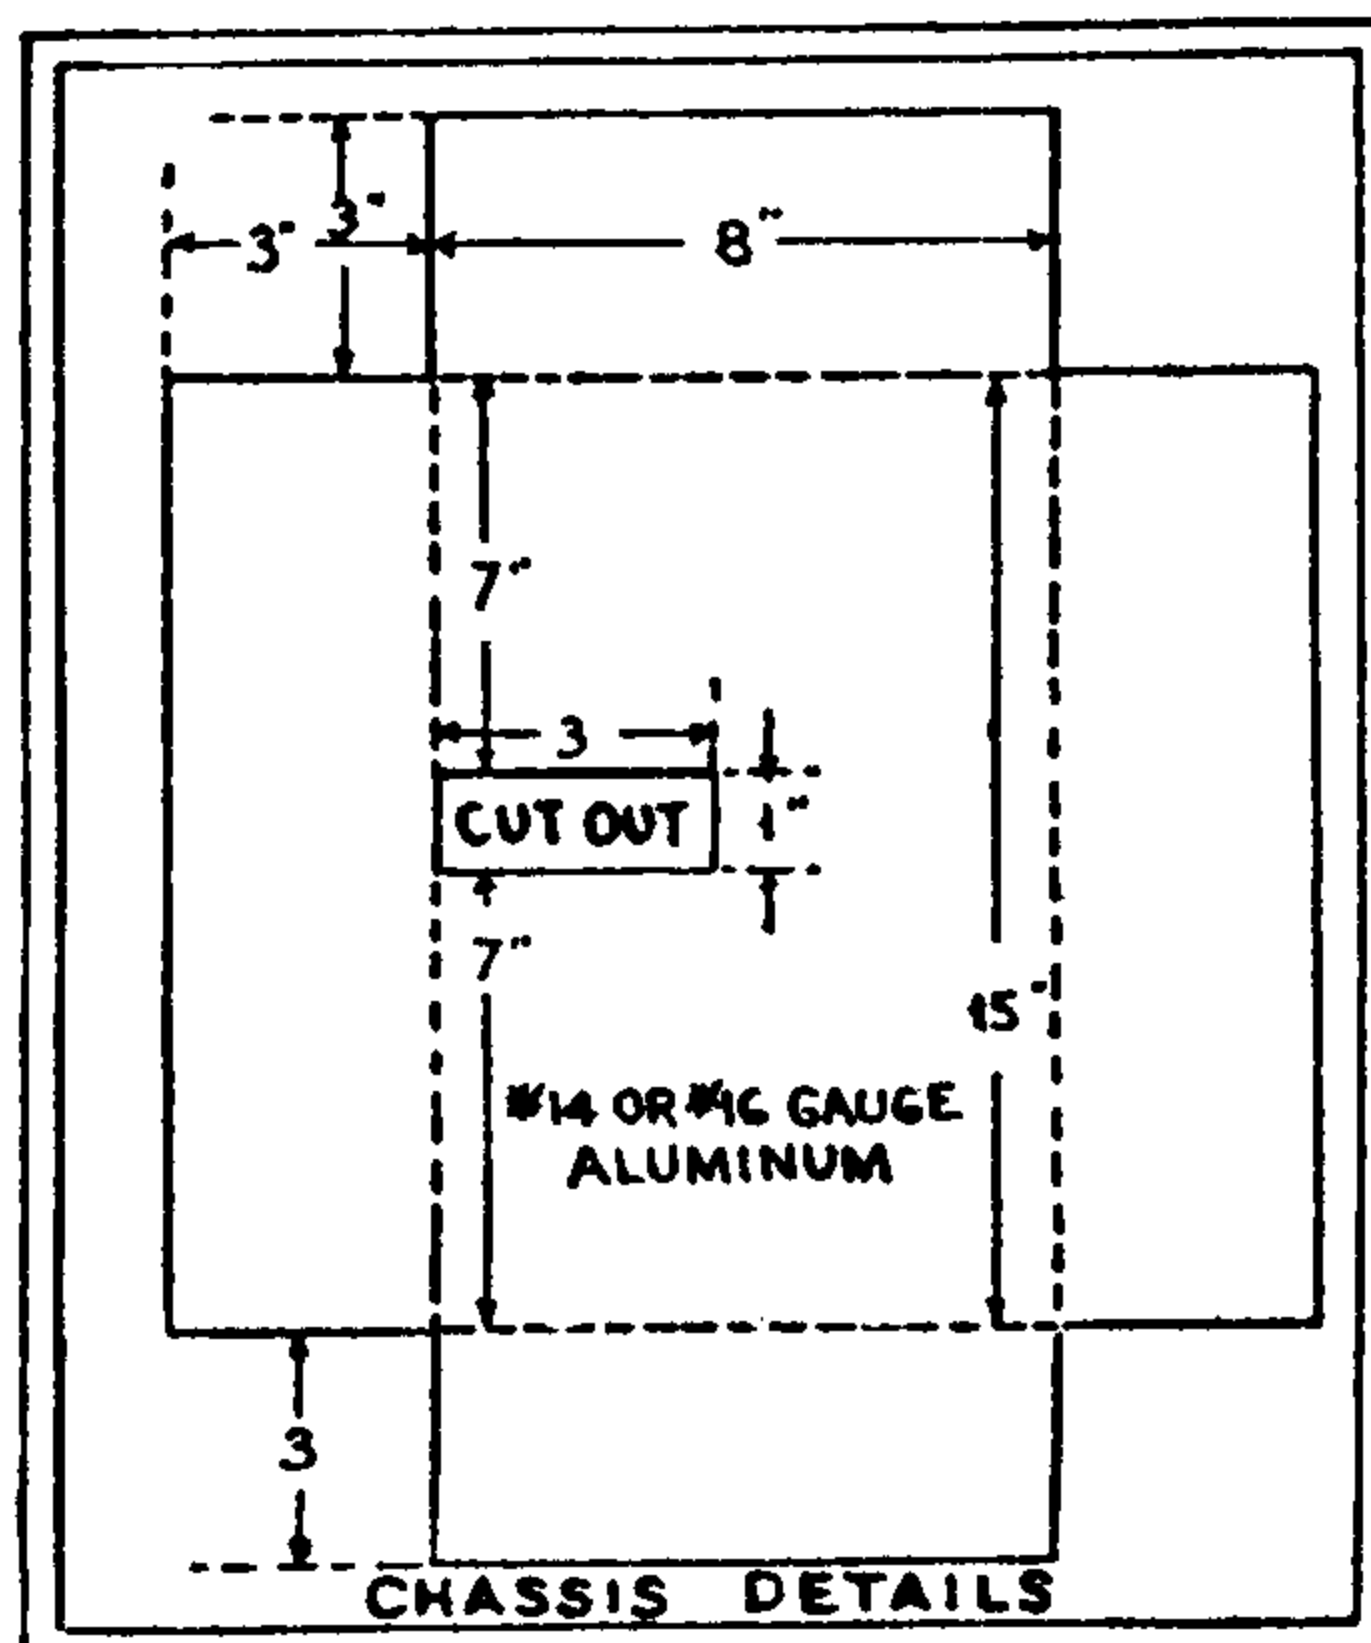
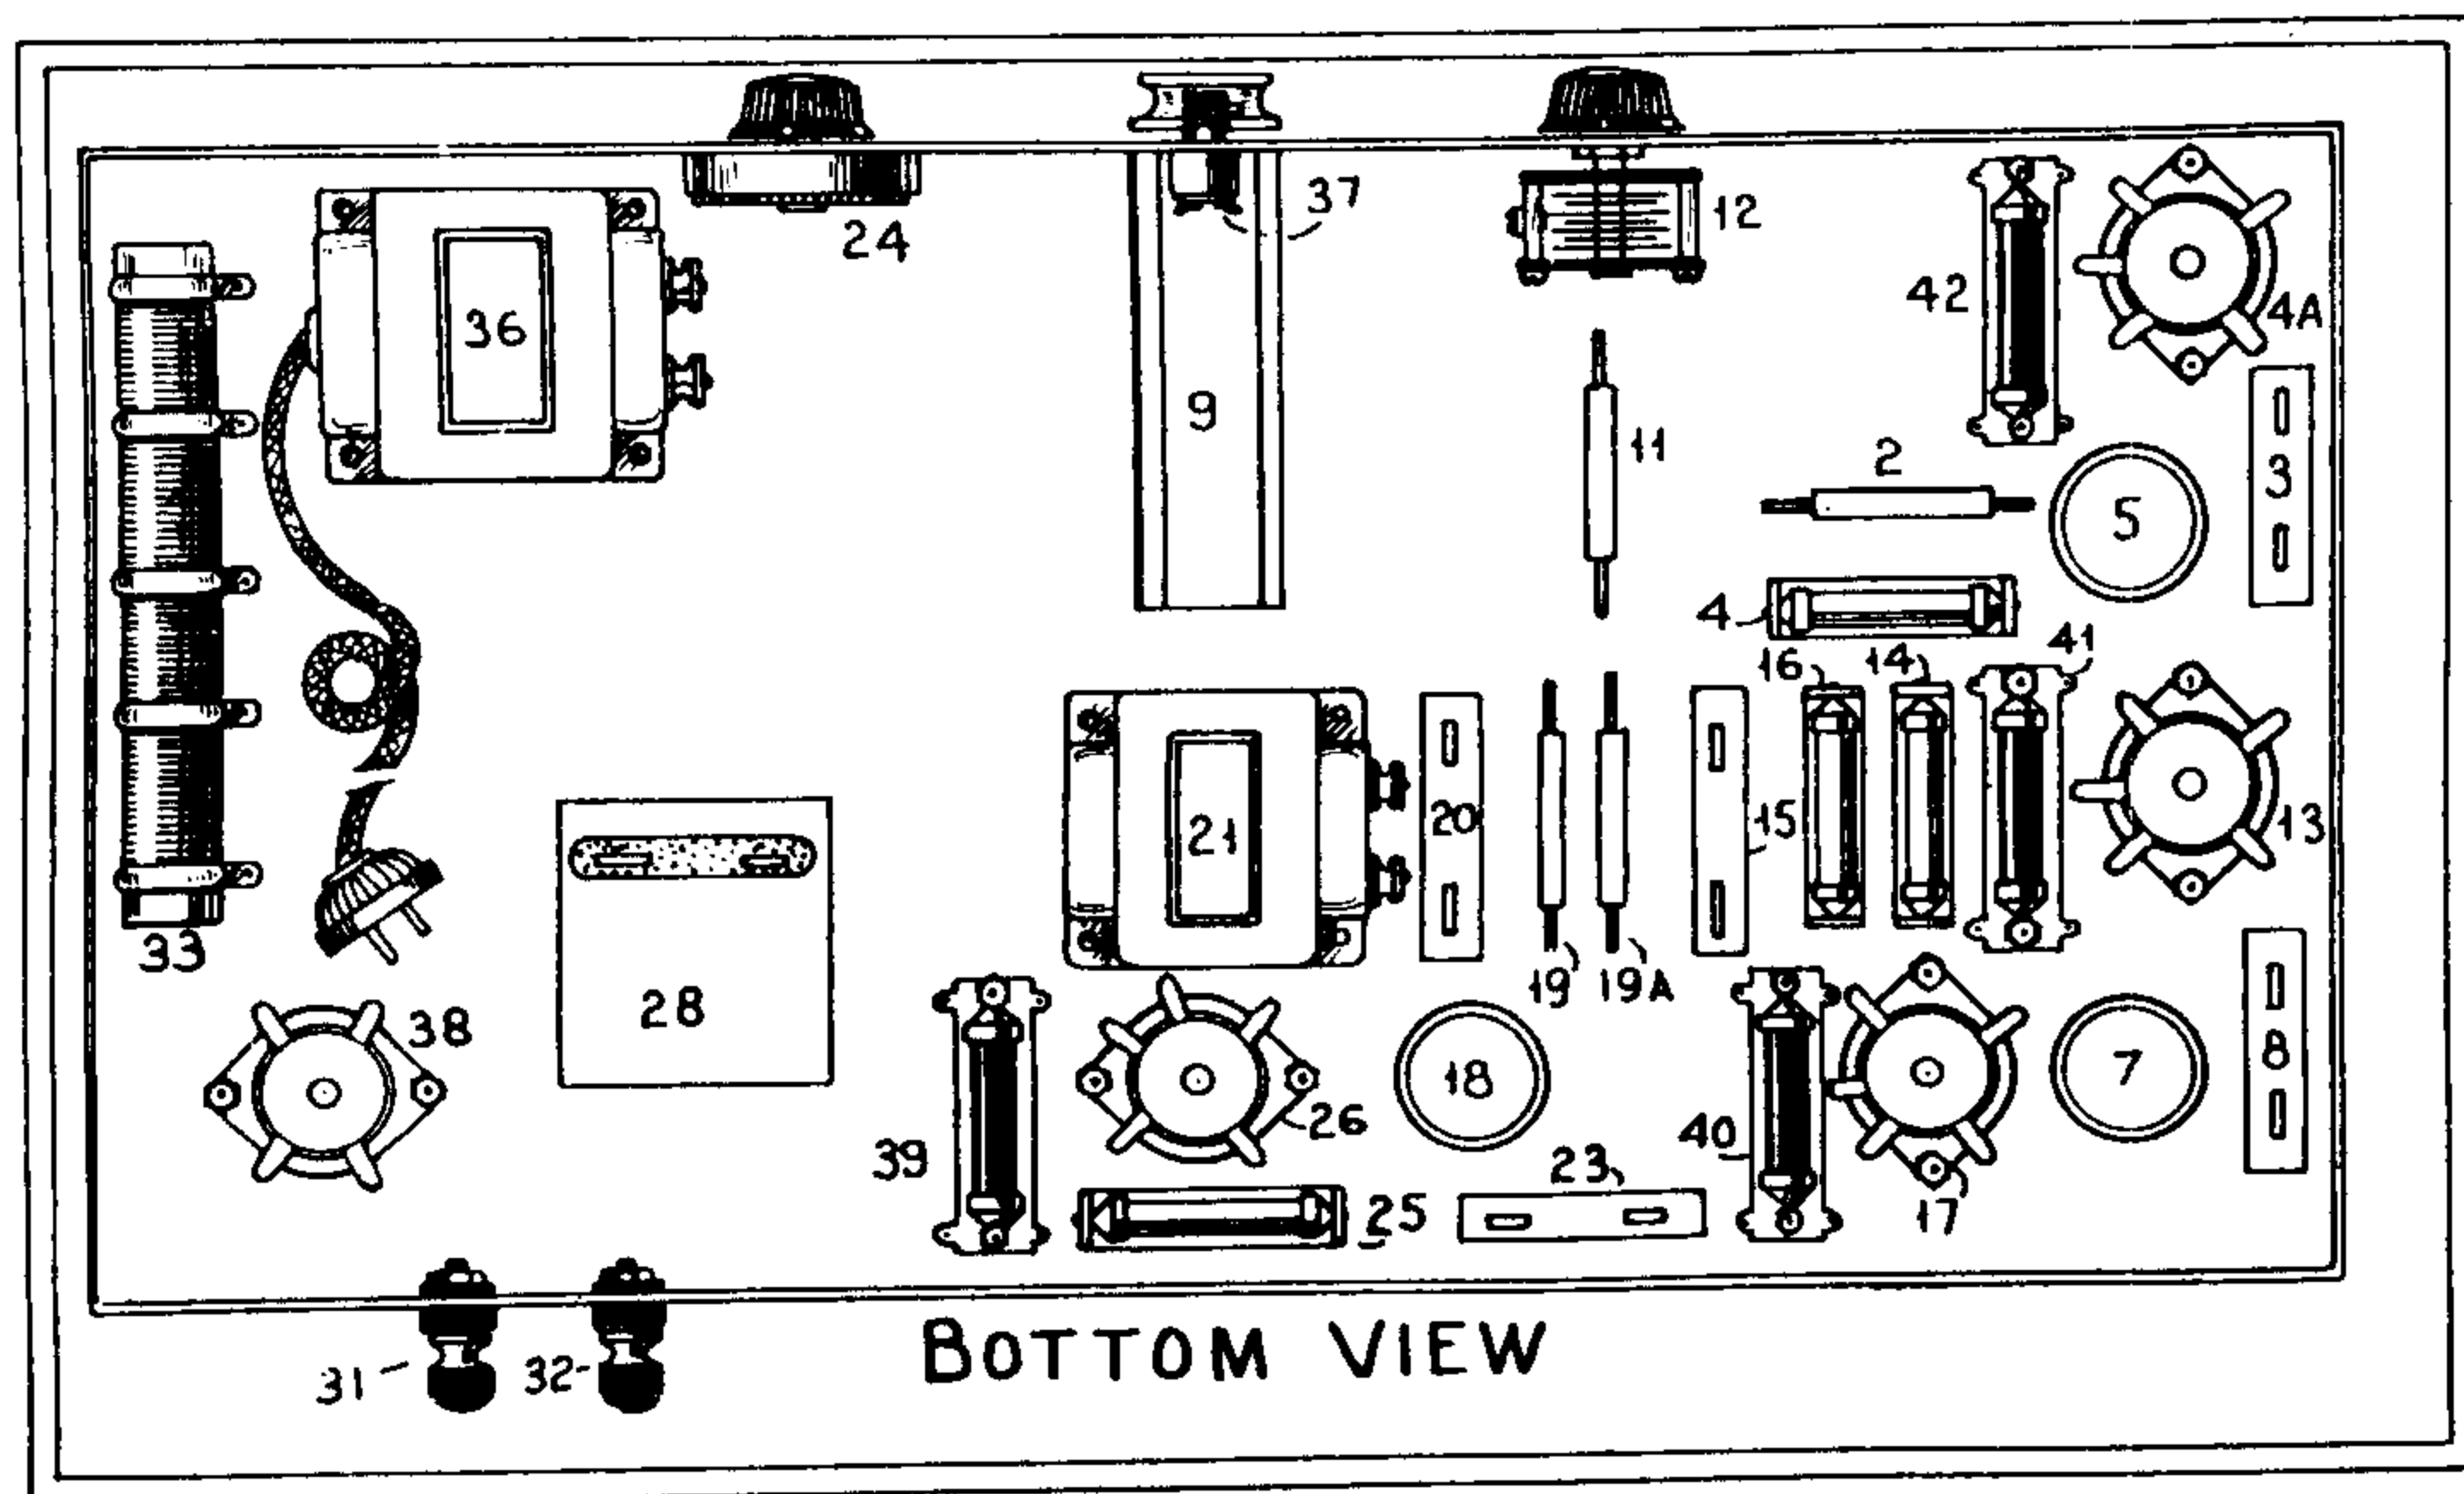

Fig. 3
Fig. 5
The chassis is bent from sheet aluminum and cut out as indicated in the "chassis details" illustrated (Fig. 3). It is placed face downward on the workbench, and the various parts shown in the bottom view (Fig. 5) are mounted in their correct positions. The sockets are mounted first, then the filament transformer (36) and the choke (21); next the voltage divider (33), the four resistors, the various fixed condensers, the four ballasts and finally the three R.F. chokes. The binding posts are mounted on the rear chassis wall, and the power switch (37), the midjet variable condenser (12) and the volume control (24) on the front chassis support.
The drum dial 9 fits into a cut-out in the deck of the chassis, as shown in Fig. 3 below. A chart of frequencies, corresponding to dial readings, should be prepared by comparison with notes of known pitch.